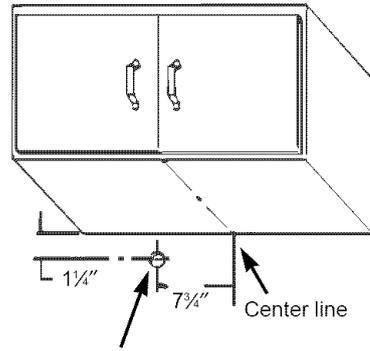

FIGURE 1
**NOTE:** For easier installation make all hood and vent cutouts in the cabinet and wall before cabinet is permanently fastened in place. It is recommended that the power supply be brought into the hood from the wall below the cabinet as shown in Fig. 1. However, an optional location is shown in Fig. 2, where the power supply enters the top of the hood by passing through the wall cabinet.